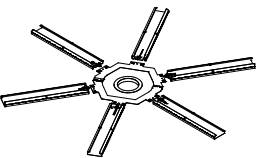

Fig 3
- 3- Take each of the 6 blades and insert them into the male part of the central ring (Fig. 3) and make sure that each blade is properly inserted into the central ring (normally a click is heard).